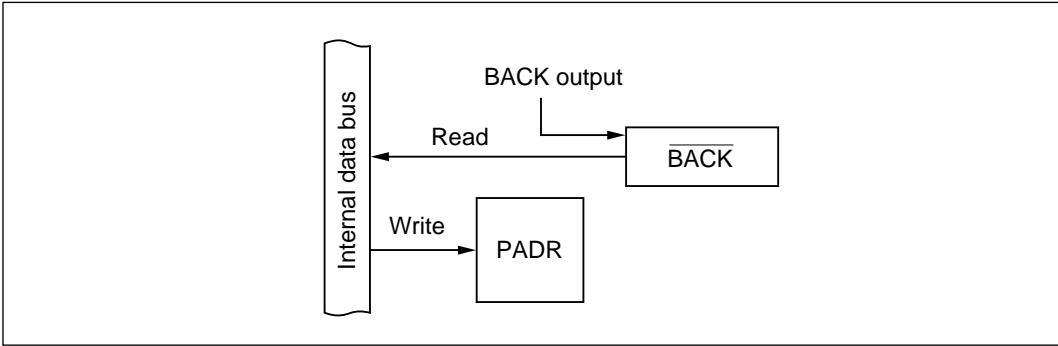

Figure 10-66 $\overline{\text{BACK}}$ Output Pin (Modes 1 to 6)
(4) **$\overline{\text{BACK}}$ Pin (PA_6 ; Modes 1 to 6):** Figure 10-66 shows a block diagram illustrating the $\overline{\text{BACK}}$ function. Table 10-50 indicates register read/write data. When PA_6 is used for $\overline{\text{BACK}}$ output, the value written in the port A data register (PADR) has no effect.